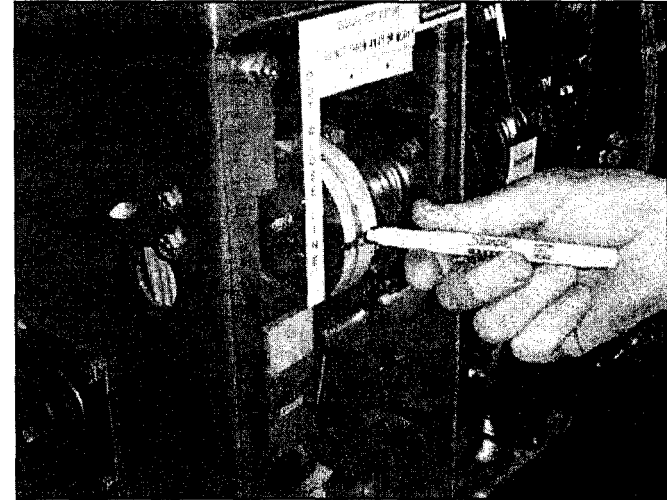

Figure 6-12 Move the Sharpie® 15° Left and Right
**Step 9** - Move the marker back and forth horizontally approximately 15° in both directions to create a line on the tape that identifies the closed rest position (Figures 6-12 and 6-13).